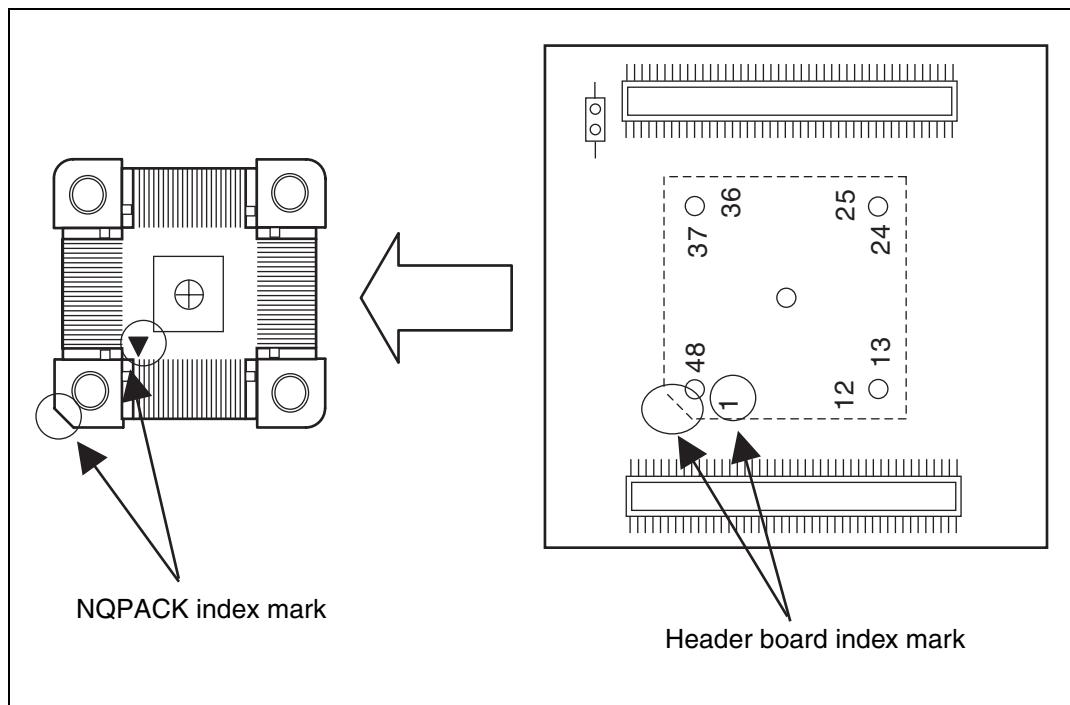

Figure 4 Index Position
1. To connect the header board to the user system, match pin 1 indicated by the index mark (\blacktriangle) on the NQPACK mounted on the user system with pin 1 indicated by the index mark (an angle cut linearly at one place only in silk screen) on the header board and then insert it (See "Figure 4"). The pins of YQPACK are thin and easy to bend. Insert NQPACK after confirming that the pins of YQPACK are not bent.